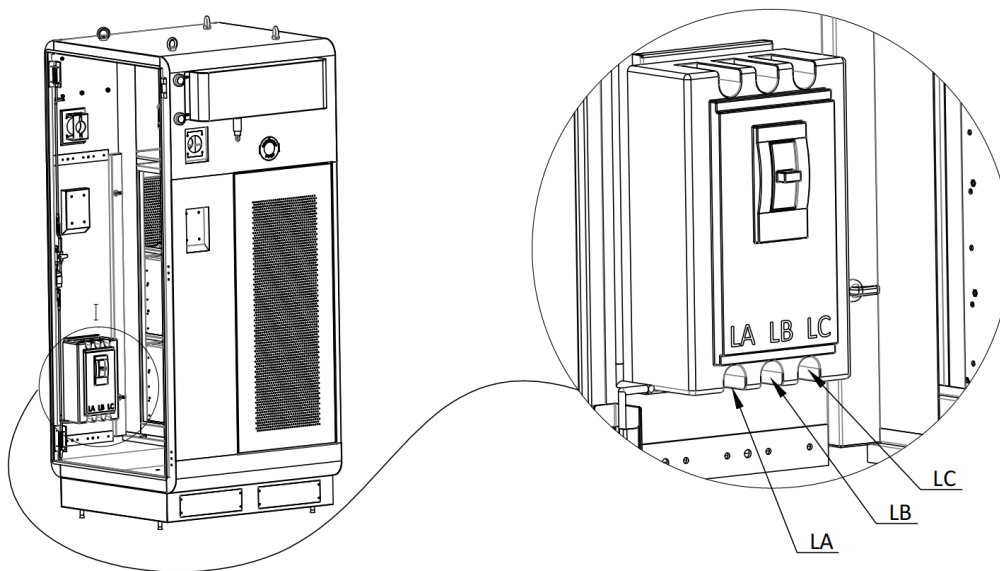

Figure 4.10 Hot Wire Terminals
- 3) Locate the connectors for 3-phase AC current input hotwires (marked as "**LA**", "**LB**", and "**LC**") at **the bottom of the main circuit breaker** (the molded-case breaker) on the **left side** (see **Figure 4.10**).